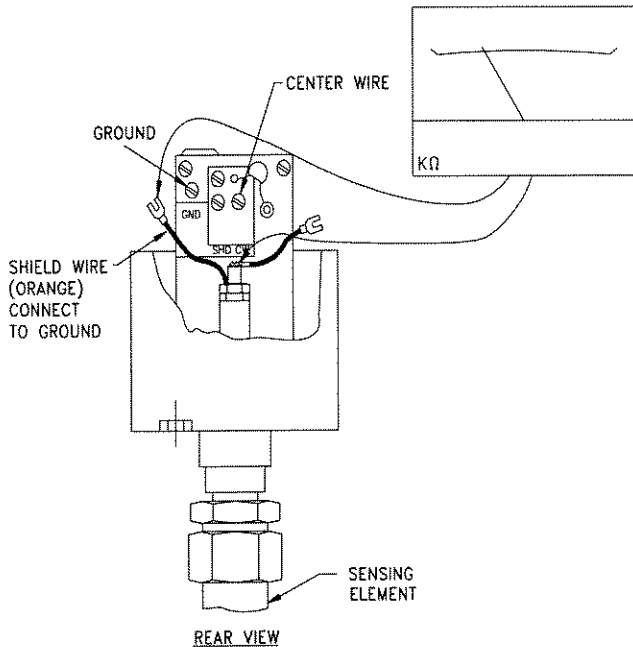

Figure 4-4
A. See Figure 4-4. Disconnect the center wire (CW) and ground (GND) wire from the electronic unit.